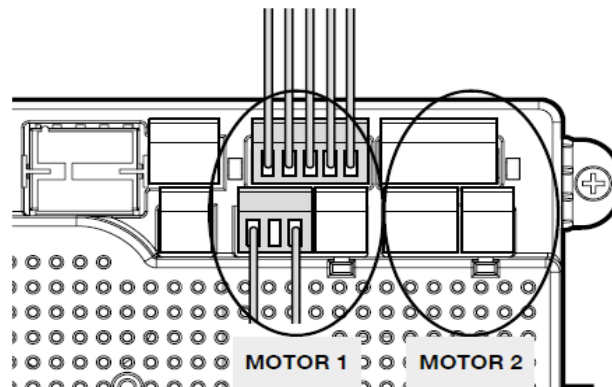

Figure 7 - APOLLO 816-1K CONNECTION AT THE CONTROLLER
Install the 5 and 3-pin connector into the section labeled "Motor 1" on the controller as shown in Figure 7. Install the 5 and 3-pin and connector into the section labeled "Motor 2" for a dual leaf swing gate installation.
4. Test the motor direction by pressing CLOSE. If the gate instead OPENS swap the RED and BLACK motor leads shown in Figure 7 and re-test to verify correct operation.